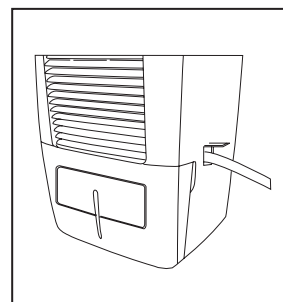

fig. 4
- i. Place the bucket back in the unit and make sure that it is located correctly. (fig.4)